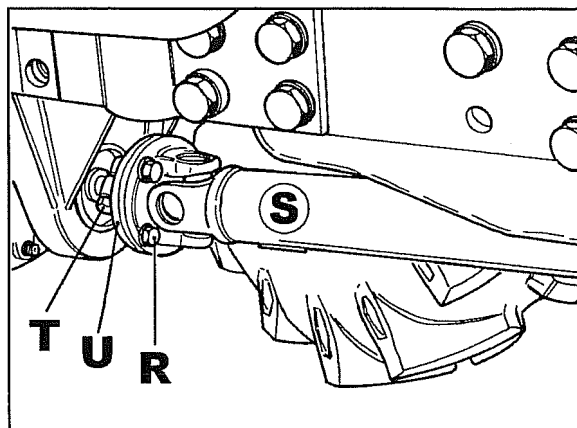

Fig. 76
8. Disconnect the dual traction shaft **S** by removing screws **R** Fig. 76 and slide the shaft forward to remove it.
9. Remove screw **T** Fig. 76 and remove flange **U**.